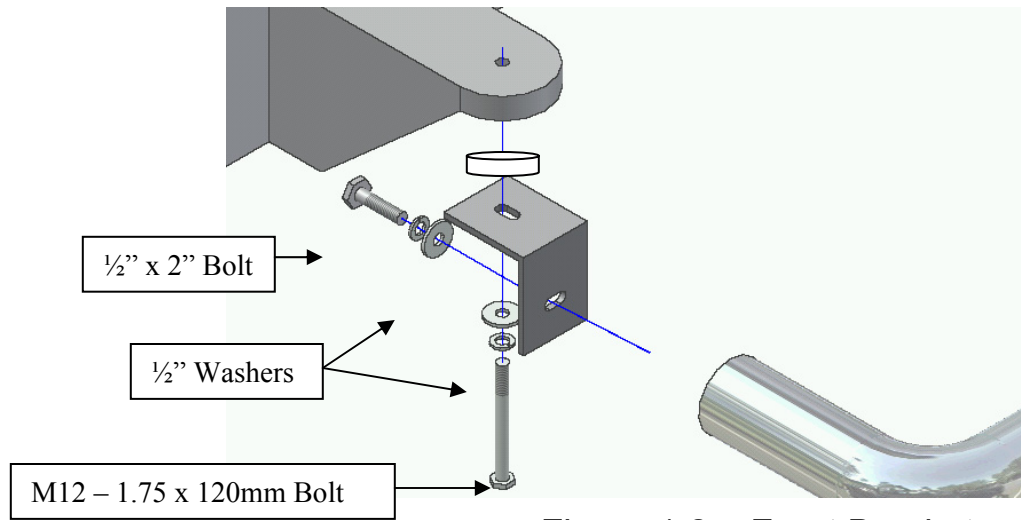

Figure 1.2 – Front Bracket
- (2) FRONT SPACER TUBES (SHOWN IN FIG 1.2)
2. From underneath truck, loosen and remove body mount bolts that run upward through mounts into floorboard. Attach and secure Front Mount Bracket to underside of vehicles front body mount, sandwiching the spacer tube shown (see Figure 1.2) with (1) M12 – 1.75 x 120mm bolt, (1) ½" split lock washer, and (1) ½" flat washer. Hand Tighten.